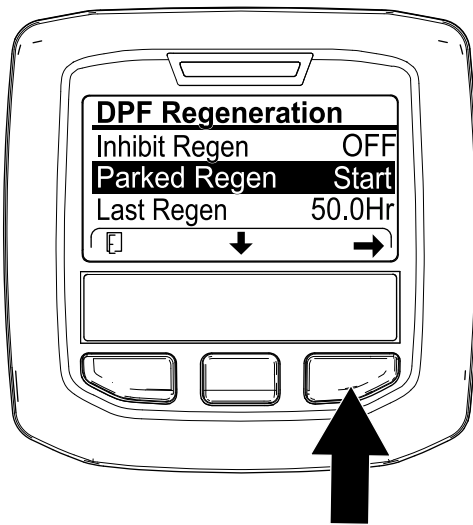

Figure 61
- Access the DPF Regeneration menu, press the center button to scroll down to either the PARKED REGEN START option or the RECOVERY REGEN START option (Figure 61), and press the right button to select the start the regeneration (Figure 61).